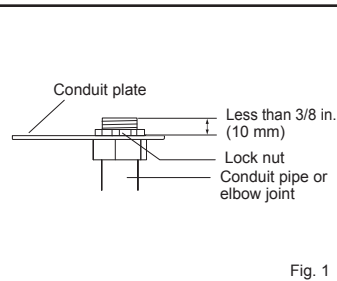

Fig. 1
- 5) Attach conduit pipe (for rear piping) / elbow joint (for right, left, or downward piping) to conduit plate with lock nut. The thread of the installed conduit pipe / elbow joint appearing inside should be less than 3/8 in. (10 mm). (Fig. 1) Elbow joint should appear less than 1-3/16 in. (30 mm) outside. (Fig. 2)
- Pull out the drain cap at the back right of the indoor unit. (Fig. 1)